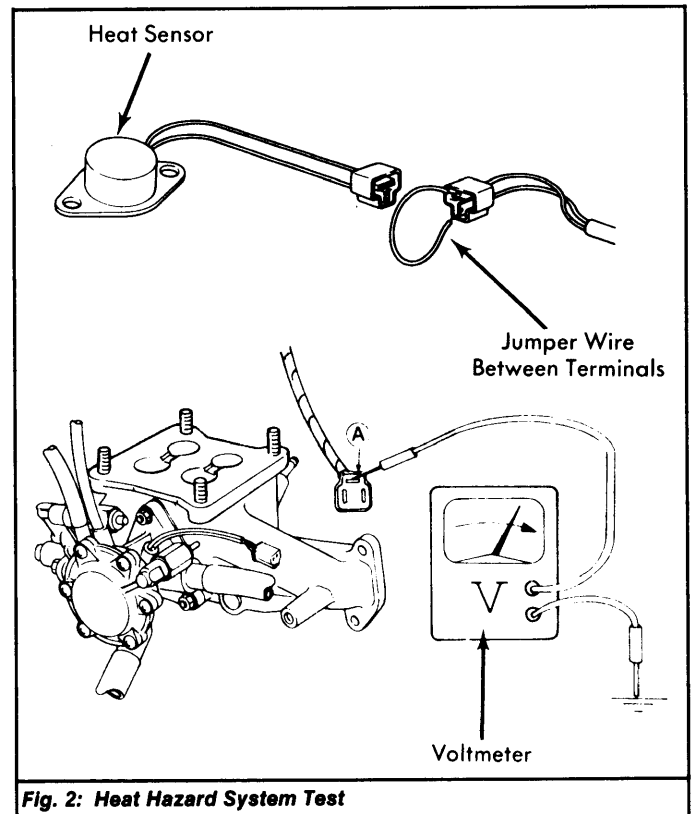

Fig. 2: Heat Hazard System Test
2) Disconnect heat sensor. Connect jumper wire between connector terminals (control unit end). Warning light should come on. Disconnect air control valve solenoid. Attach voltmeter to terminal "A". See Fig. 2. Voltage should be indicated.